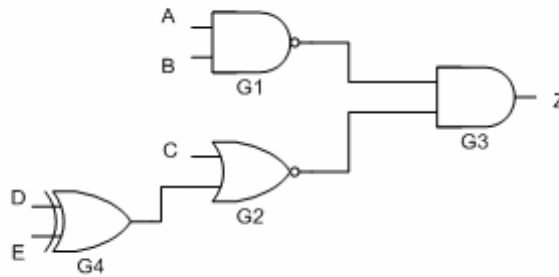

Figure 1: A Logic Circuit Diagram
- (a) What are the types of the four logic gates (G1, G2, G3 and G4) in the logic circuit diagram shown in Figure 1?
- (c) If a truth table was provided for the above circuit, in Figure 1, what would it tell you about the output Z, given some set of inputs for A, B, C, D and E?
- (d) The circuit shown above, in Figure 1, must be modified so that the output Z is the inverse of that in the existing design for all possible input values. Suggest two (2) ways of achieving this. Draw the logic diagram for each solution.